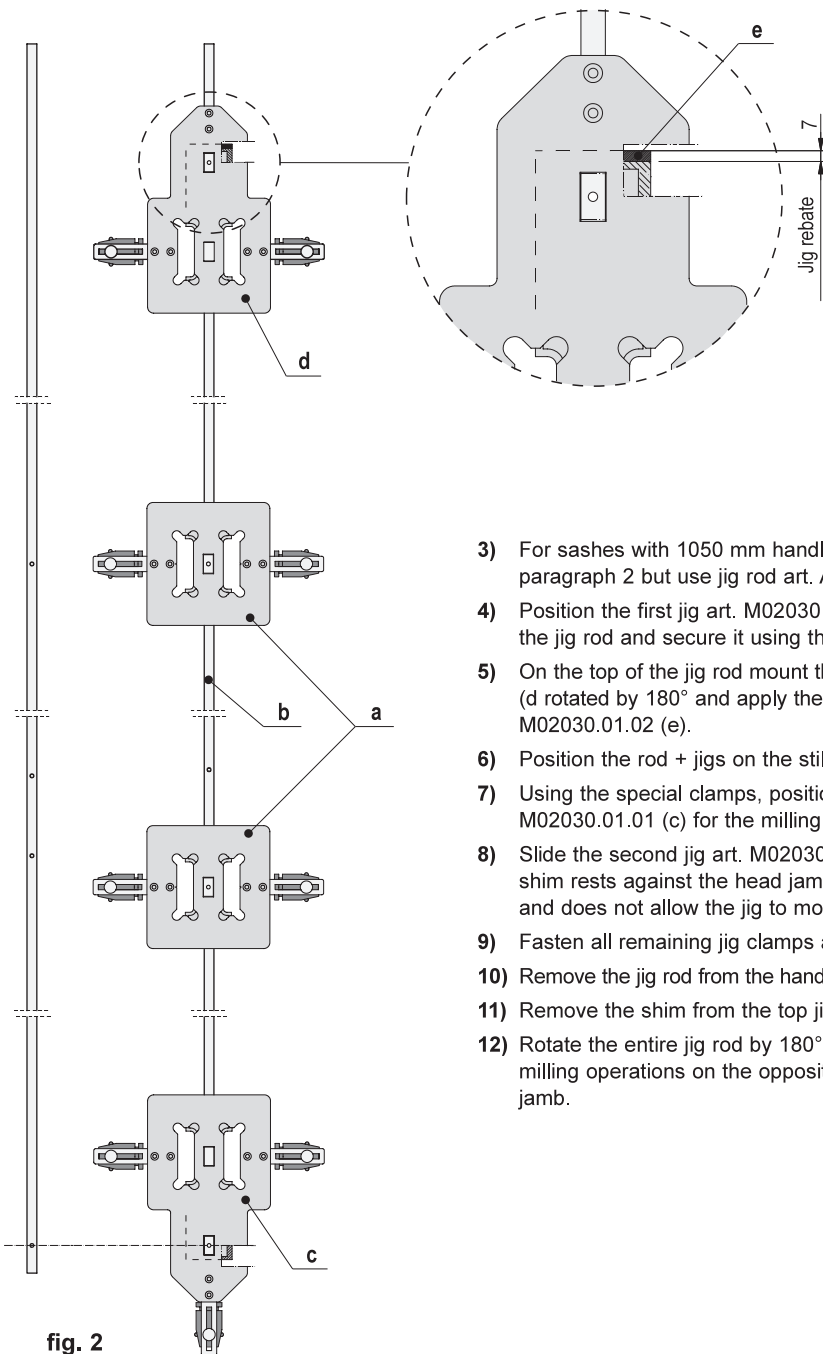

fig. 2
- 2) For sashes with 500 mm max. handle height, insert a jig art. A20030.01.27 (a) on rod art. A20030.01.28 (b), and position it according to the GR size of the vertical linking elements on the handle side (fig. 2). If you use a GR size without locking cams the millings can be done without the help of a jig rod.